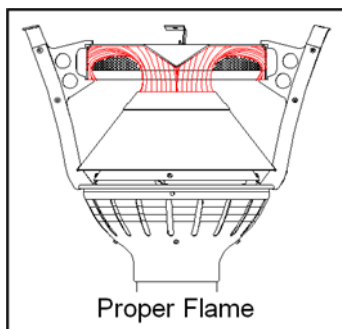

Figure 16: Proper Flame Pattern
4. Visually check the Burner flame pattern during use. A “Proper Flame” should resemble image on Figure 16.